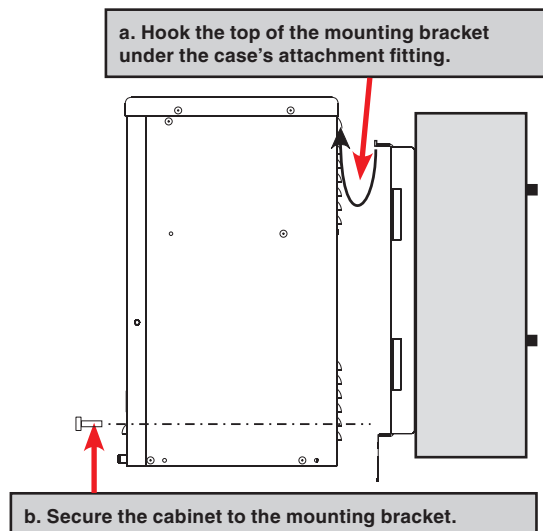

Figure 11 — Securing the enclosure to the mounting bracket
3. Secure the Alpha Micro cabinet to the mounting bracket with the supplied bolts. See Figure 11.